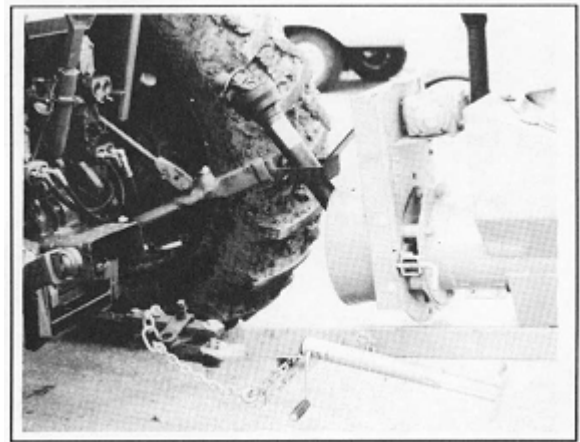

Fig. 14 HITCH
3. Disconnect the vertical driveline out of the gearbox and place the loose end in the transport holder. See fig. 14.